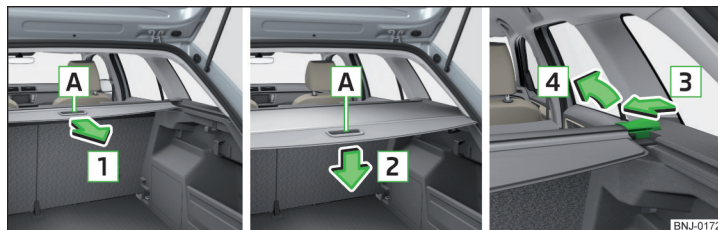

Fig. 109 Roll-up cover: extending/retracting/removing
- Grasp the cover at grip-point **[A]** and pull it out in the direction of the arrow **[1]** until it audibly clicks into place » Fig. 109.
- Push the cover in the handle area **[A]** in the direction of arrow **[2]** » Fig. 109. The cover rolls up automatically. The rolled-up cover can now be removed.
- Press on the side of the cross bar in the direction of arrow **[3]** and remove the cover in the arrow direction **[4]** » Fig. 109.
- › To **install**, remove the retractable luggage compartment cover » Fig. 109 on page 84 or the fold the rear seat backrests forwards » page 70.